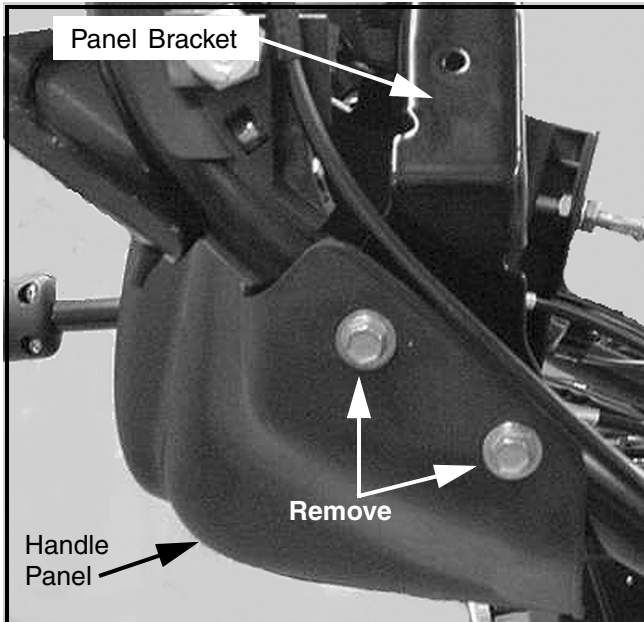

FIGURE 6
13. Using a 3/8" socket and a ratchet, remove the two screws securing the handle panel and panel bracket to the LH upper handle assembly. See Figure 6.